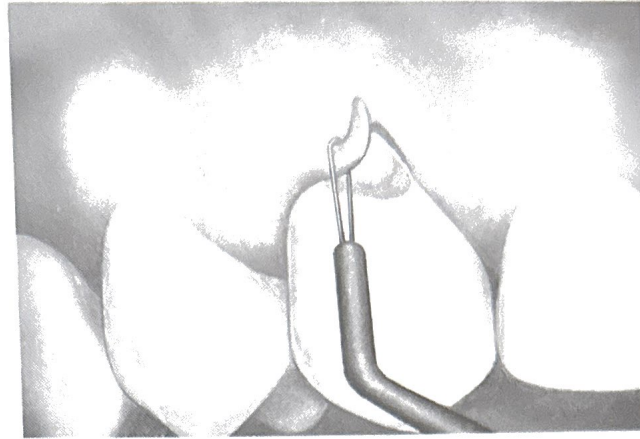

Figure 4
3. With the Output Control in the cutting mode and at the predetermined proper setting, shave off the gingival tissue covering the lesion with a few strokes of the Long Loop electrode (Figure 4).